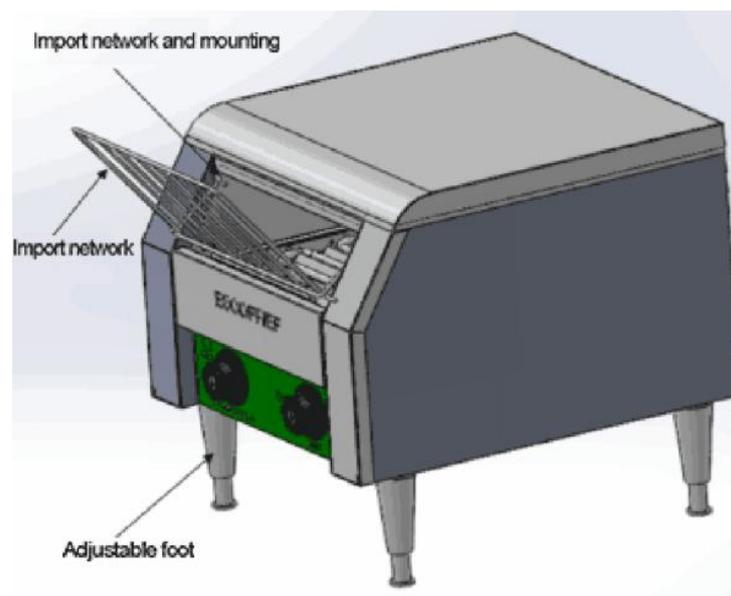

Figure 1(Adjustable foot,Import network,Import network and mounting hole)
3. As shown in Fig. 1, the hooks at both ends of the lead-in net are inserted into the installation holes of the lead-in net.